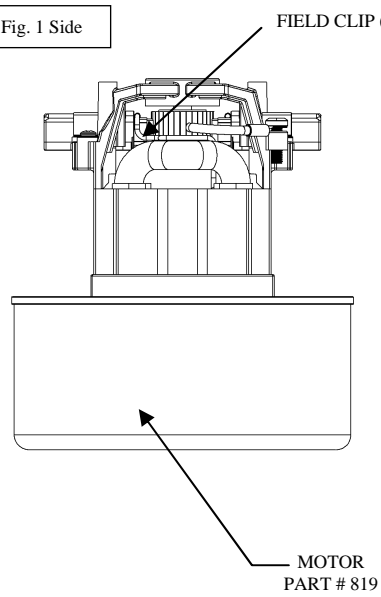

Fig. 2 Top Down
- a. Loosen the two brush assembly retainer screws (Fig. 3, Ref #1) to loosen the brush assembly retainer (Fig. 3, Ref #2). Remove the field clip (Fig. 3, Ref #3) to remove the brush assembly (Fig. 3, Ref #4) and replacing it with a new one. (Note: IMPORTANT - the brush has a small tab on the bottom that **MUST** be fitted into the slot on the motor frame for proper positioning) (Fig. 2, Ref #5)